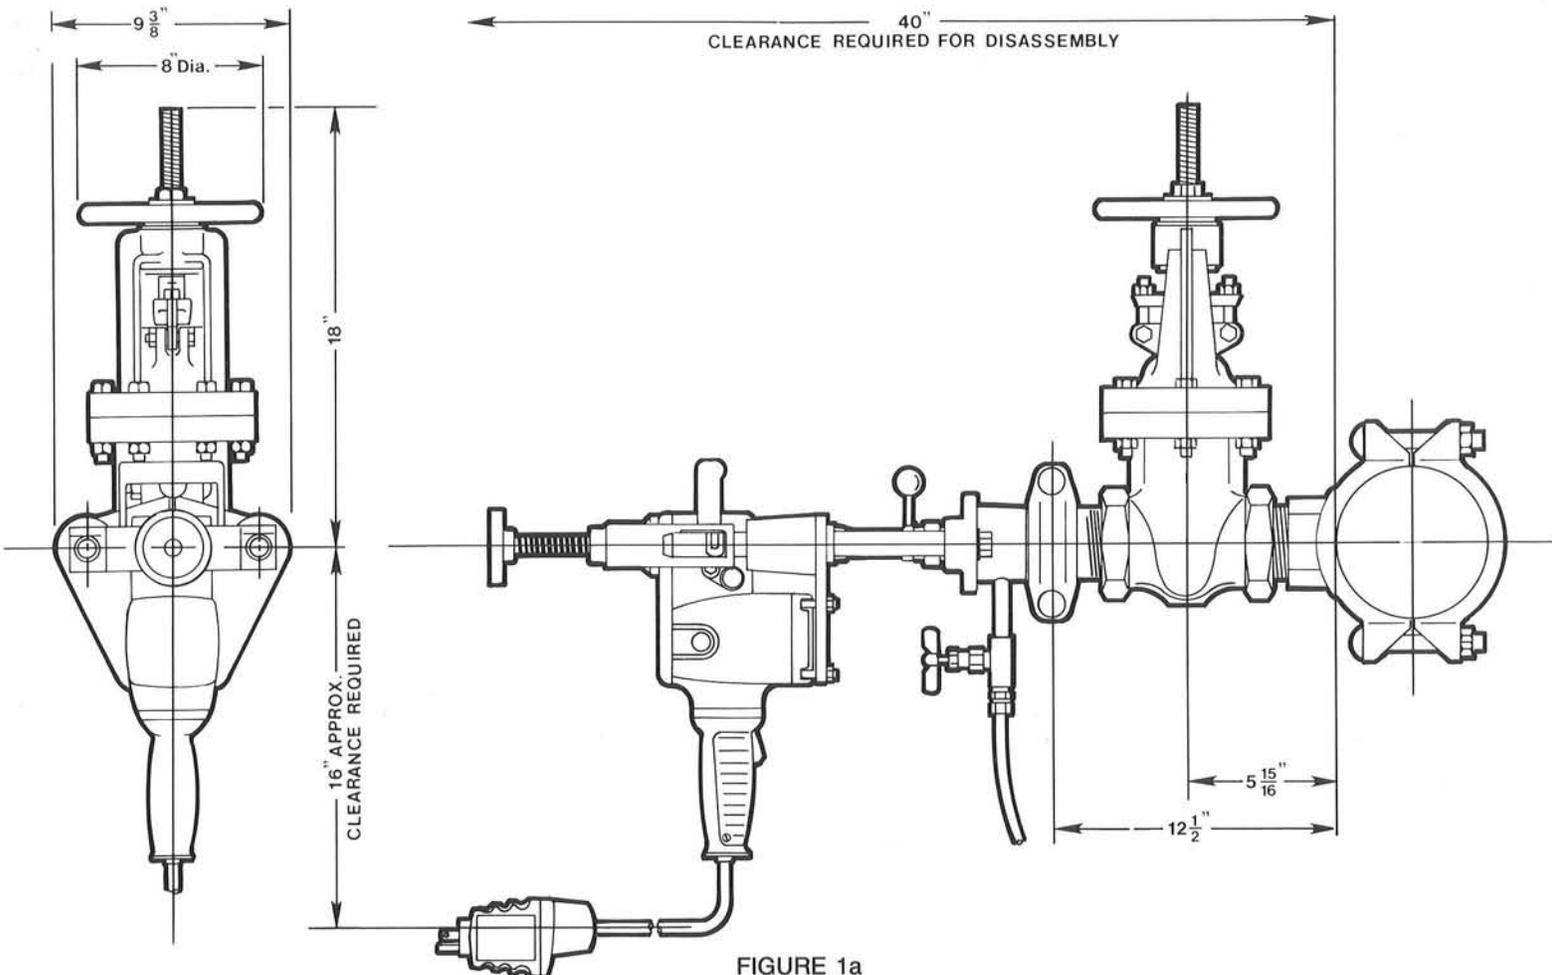

FIGURE 1a
1. Select a suitable location to tap into the run for the branch connection. Choice of location must take into account the space required for the Mechanical Tee/Valve Assembly unit and the Vic-Tap Tool. See Figures 1a and 1b for the physical dimensions of the Mechanical Tee/Valve Assembly units and Vic-Tap Tool.